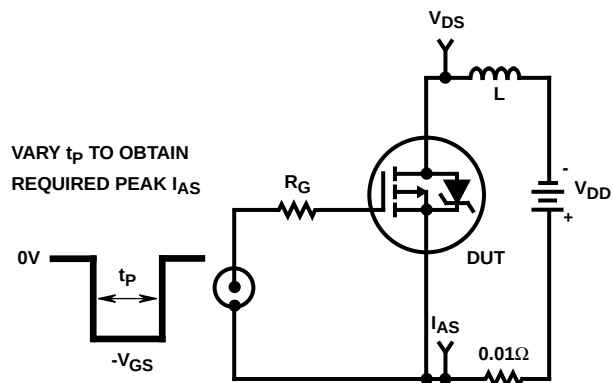

FIGURE 15. UNCLAMPED INDUCTIVE ENERGY TEST CIRCUIT
- $V_{DD} = 25\text{V}$, starting $T_J = 25^{\circ}\text{C}$, $L = 4\text{mH}$, $R_G = 25\Omega$, peak $I_{AS} = 19\text{A}$. (Figures 15, 16).